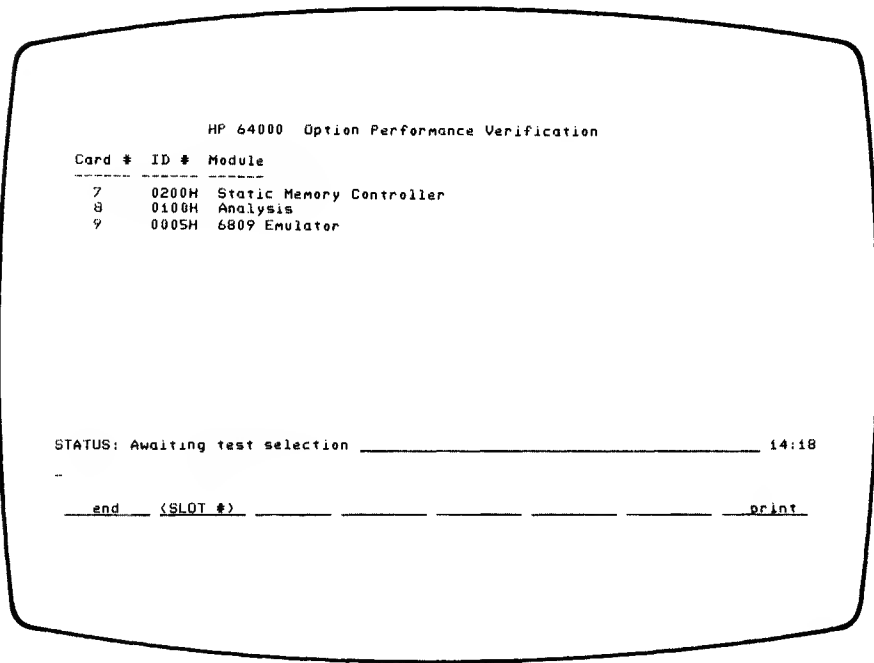

Figure 4-2. Option Map
- b. The CRT will now display a directory of the installed option boards and their slot numbers. (Figure 4-2). Locate the 6809 Controller and enter the card slot number. For example, in Figure 4-2 the 64214A is in slot 9. Therefore, enter: